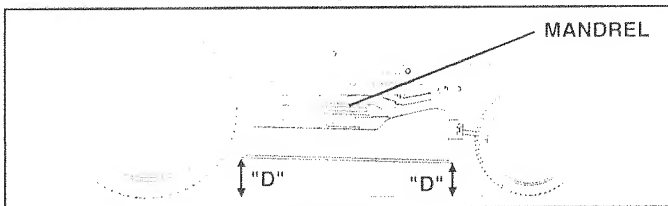

FIG. 23
**FRONT-TO-BACK ADJUSTMENT** (See Figs. 23 and 24)